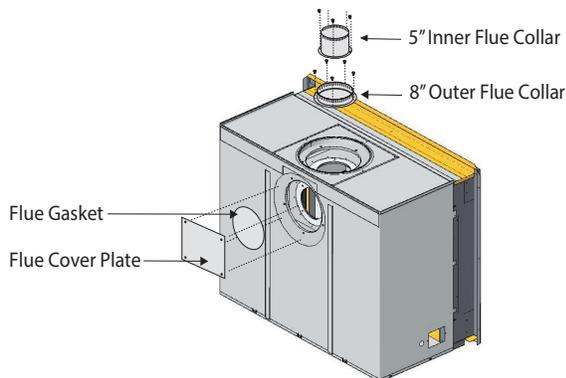

Figure 9. *Flue cover and collar removal, Top Vented fireplace.*
1. Remove the Rear flue cover and gasket (5" and 8") on the flue outlet, as shown in Figure 9.
outlet, as shown in Figure 9.